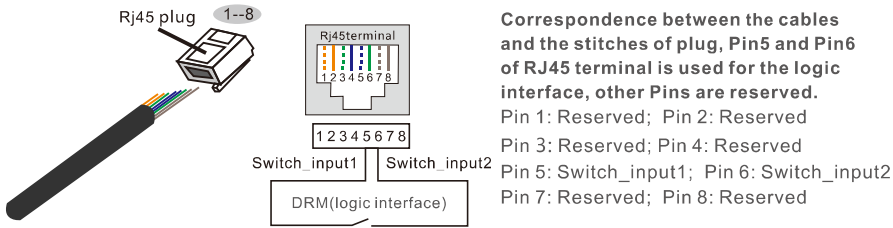

Figure 5.31 Strip the insulation layer and connect to RJ45 plug
2.Use the network wire stripper to strip the insulation layer of the communication cable. According to the standard line sequence of figure 5.31 connect the wire to the plug of RJ45, and then use a network cable crimping tool to make it tight.